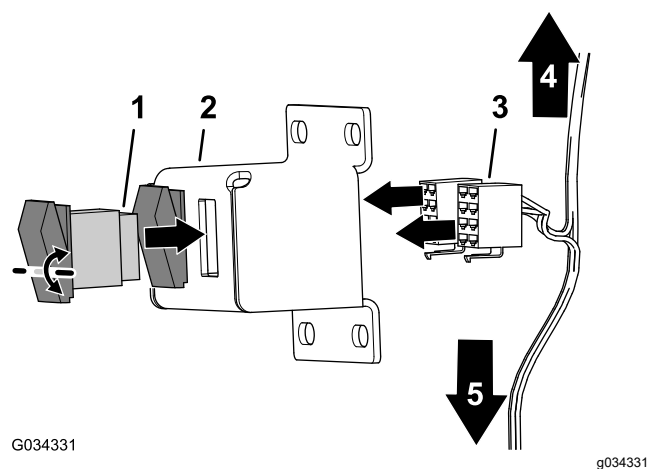

Figure 2
1. Align the rocker switch to the opening in the switch bracket (Figure 2).
2. Insert the switch into the opening until the latch on the switch snaps securely (Figure 2).
4. Connect the 8-pin connectors of the wire harness to the 8-pin connectors of the rocker switches (Figure 2).